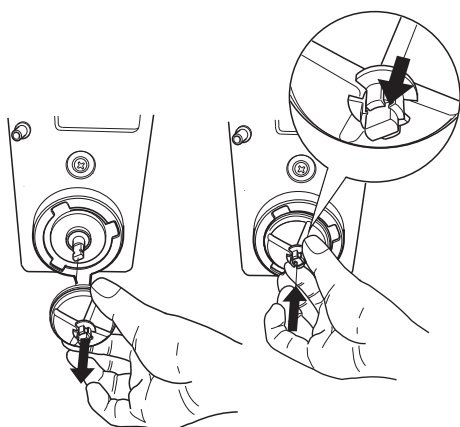

Fig. 10
- The fans can be removed by simply applying a light traction to let them free (see Fig. 10);